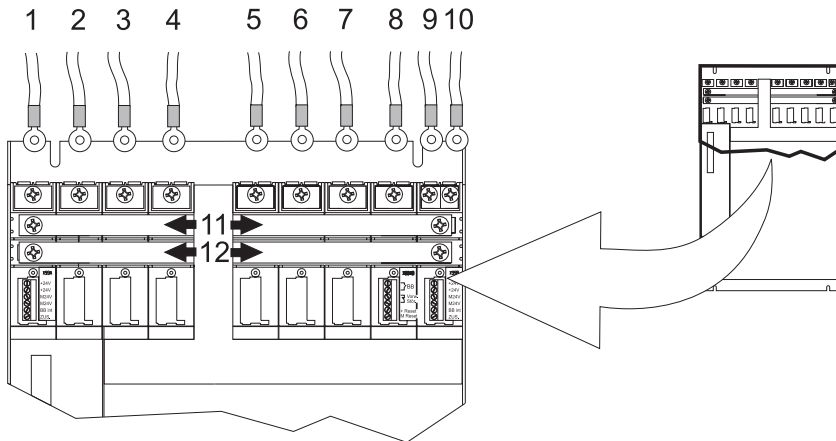

Figure 14: : Power connections BUM 62 S/A/F
1) Position see ▶Figure 14◀ on page 47